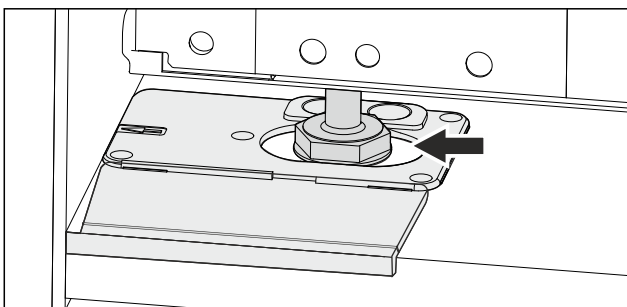

Fig. 54
- Align the appliance with the adjustable feet. Fig. 54 ()